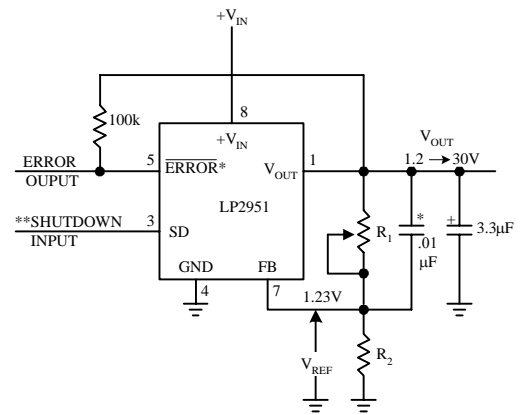

FIGURE 2. Adjustable Regulator
The LP2951 may be pin-strapped for the nominal fixed output voltage using its internal voltage divider by tying the output and sense pins together, and also tying the feedback and V_{TAP} pins together. Alternatively, it may be programmed for any output voltage between its 1.235V reference and its 30V maximum rating. As seen in Figure 2, an external pair of resistors is required.
*When $V_{IN} \leq 1.3V$ the error flag pin becomes a high impedance, and the error flag voltage rises to its pull-up voltage. Using V_{out} as the pull-up voltage (see Figure 2), rather than an external 5V source, will keep the error flag voltage under 1.2V (typ.) in this condition. The user may wish to drive down the error flag voltage using equal value resistors (10 k Ω suggested), to ensure a low-level logic signal during any fault condition, while still allowing a valid high logic level during normal operation.